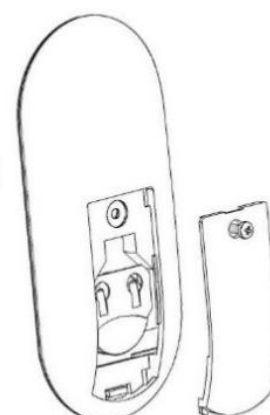

Fig. 7c
3. Remove the battery compartment cover from the back of the remote to access the battery (Fig. 7c)